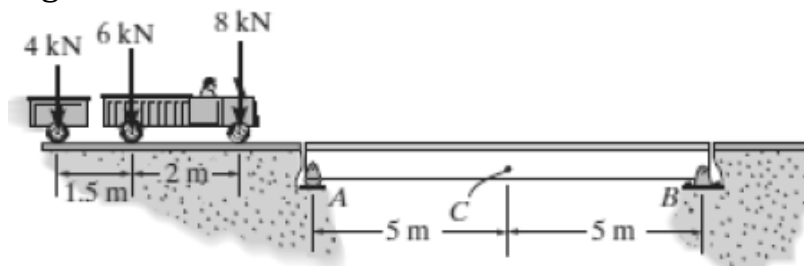

Fig.7
5. Determine the maximum positive moment at point *C* on the single girder shown in Fig.7 caused by the moving load.